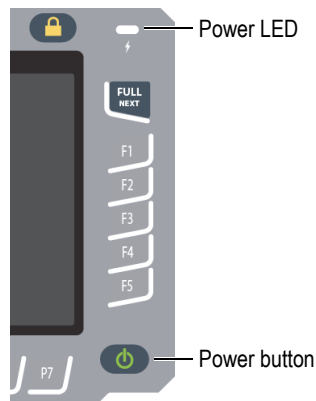

Figure 2-1 Location of the EPOCH 650 power key and indicator
1. Press the Power button to turn on the EPOCH 650 (see Figure 2-1 on page 55).